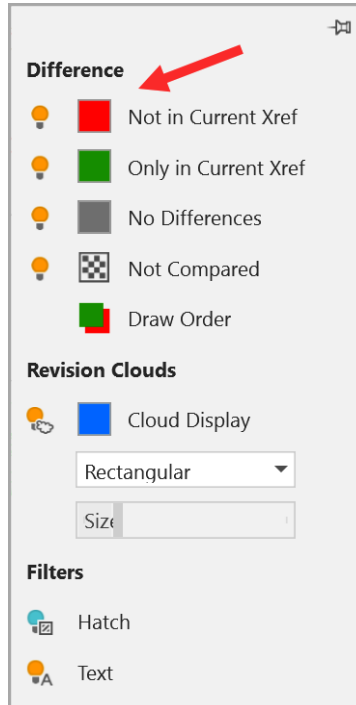

Figure 14.25: The Xref Compare Settings menu
- As per the **Settings** on the toolbar, the red circles are marked so they are not in the current attached Xref file, Landscaping\_REV1 .dwg; they are in the compared file, Landscaping\_REV2 .dwg. This setting is shown in *Figure 14.25*. You can change any of these colors in the **Settings** menu.